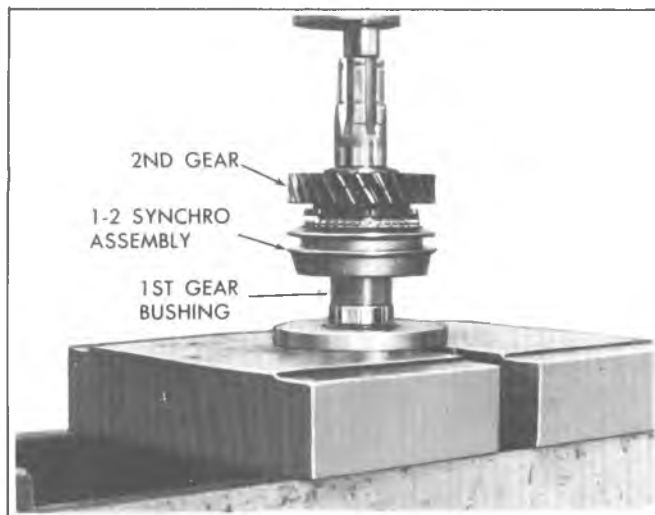

Fig. 7B-21K--Installing 1st Gear Sleeve
3. Position the 1st gear sleeve on the shaft and press the sleeve onto the mainshaft until the 2nd gear, clutch assembly and sleeve bottom against the shoulder of the mainshaft (Fig. 7B-21K).